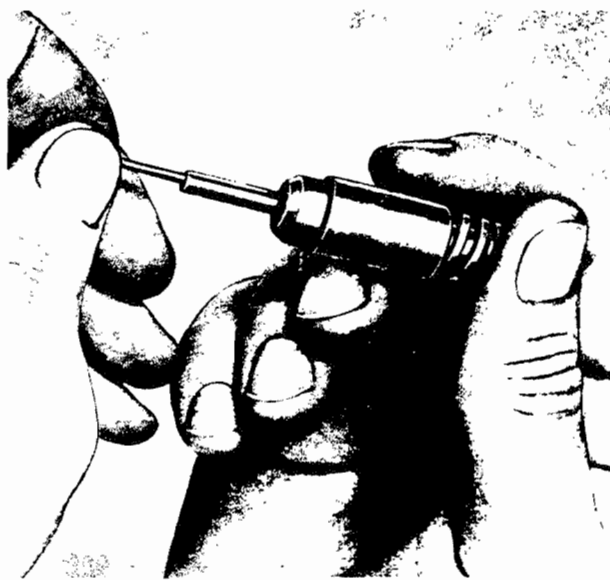

FIGURE 36. RELEASING HYDRAULIC UNIT CHECK VALVE.
b. In most cases, the condition is due to a deposit of carbon which has formed at the shoulder of the cylinder, above the plunger. If the oil chamber is still filled with oil, sealed in by the ball check-valve, the plunger will be held rigidly against the carbon ring and with the oil trapped under the plunger will give the impression that it is “stuck”. To determine whether or not the plunger is stuck, insert a wooden stick into the tube at the bottom of the cylinder, as shown in Figure 36. This will unseat the ball check valve, and allow the oil to drain out.